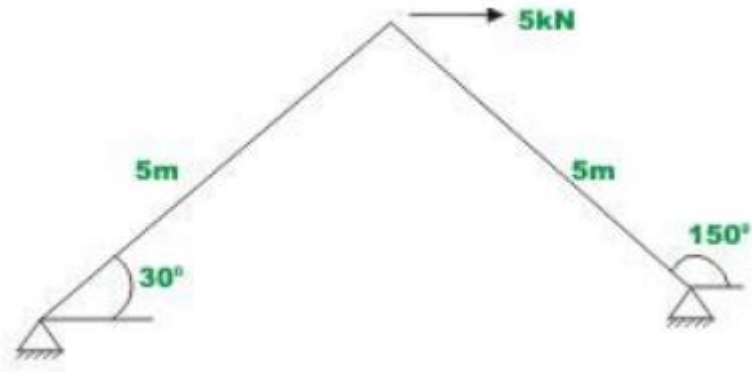

Fig. 4
5. Solve the member forces and the reactions for the truss shown in Fig. 4. Assume EA is constant for all members. The length of each member is 5m . (20 marks)